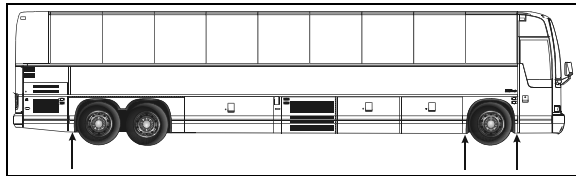

FIGURE 5: JACKING POINTS ON FRAME 18618
- FIGURE 5: JACKING POINTS ON FRAME 4
1. Raise vehicle by its jacking points on the body (fig. 5 or see Section 18, "Body" under heading "Vehicle Jacking Points"). Place jack stands under frame. Remove drive axle wheels (if required, refer to Section 13, "Wheels, Hubs And Tires".